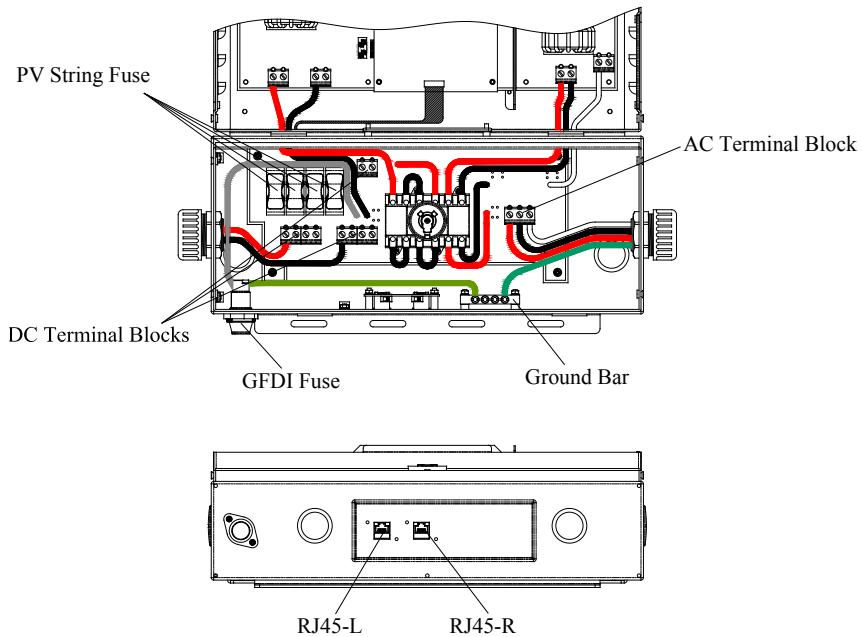

Fig 2.3.5 Wiring box front view
The following three sections describe the wiring for the AC, DC, and communication ports. The wiring shall be done in the wiring box for the SiE2900, SiE3840, SiE4900, and SiE5300. There is a pair of DC terminal blocks, two (2) RJ-45 connectors, and one (1) AC terminal block in the wiring box as shown in the figure 2.3.5. The DC terminal blocks are used to connect up to 4 PV strings in parallel in the wiring box. The RJ-45 connectors are used for external communication to a remote computer or terminal. The AC terminal block is used to connect to the utility grid through a circuit breaker and distribution panel according to national and local requirements.